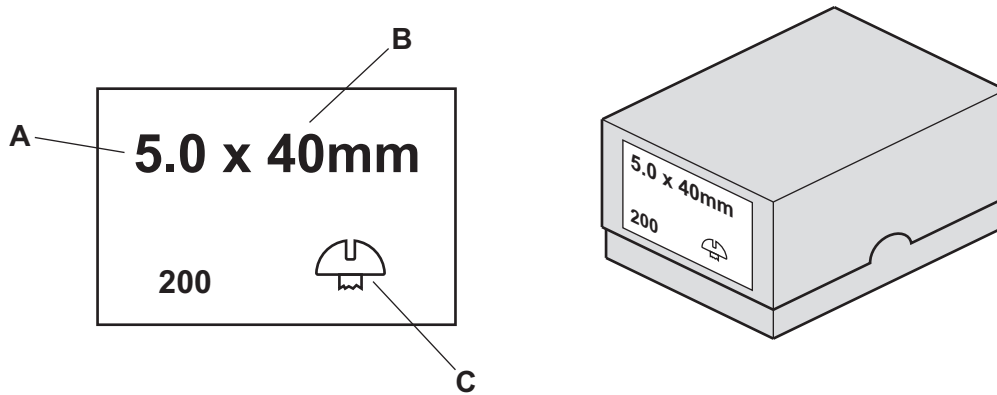

Fig. 1.1
- 1 Fig. 1.1 shows the label from a box of wood screws.